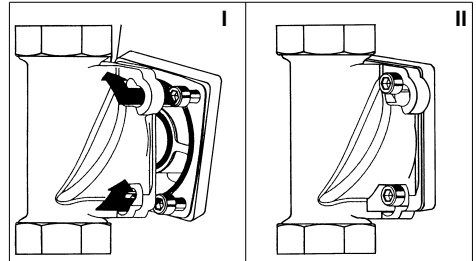

Fig. 4: Built-in rotary flange with bayonet fixture
- Insert the four flange screws in the bayonet drill holes on the built-in rotary flange (see fig. 4 I).
- Turn the magnetite filter in a clockwise direction as far as it will go (see fig. 4 II).